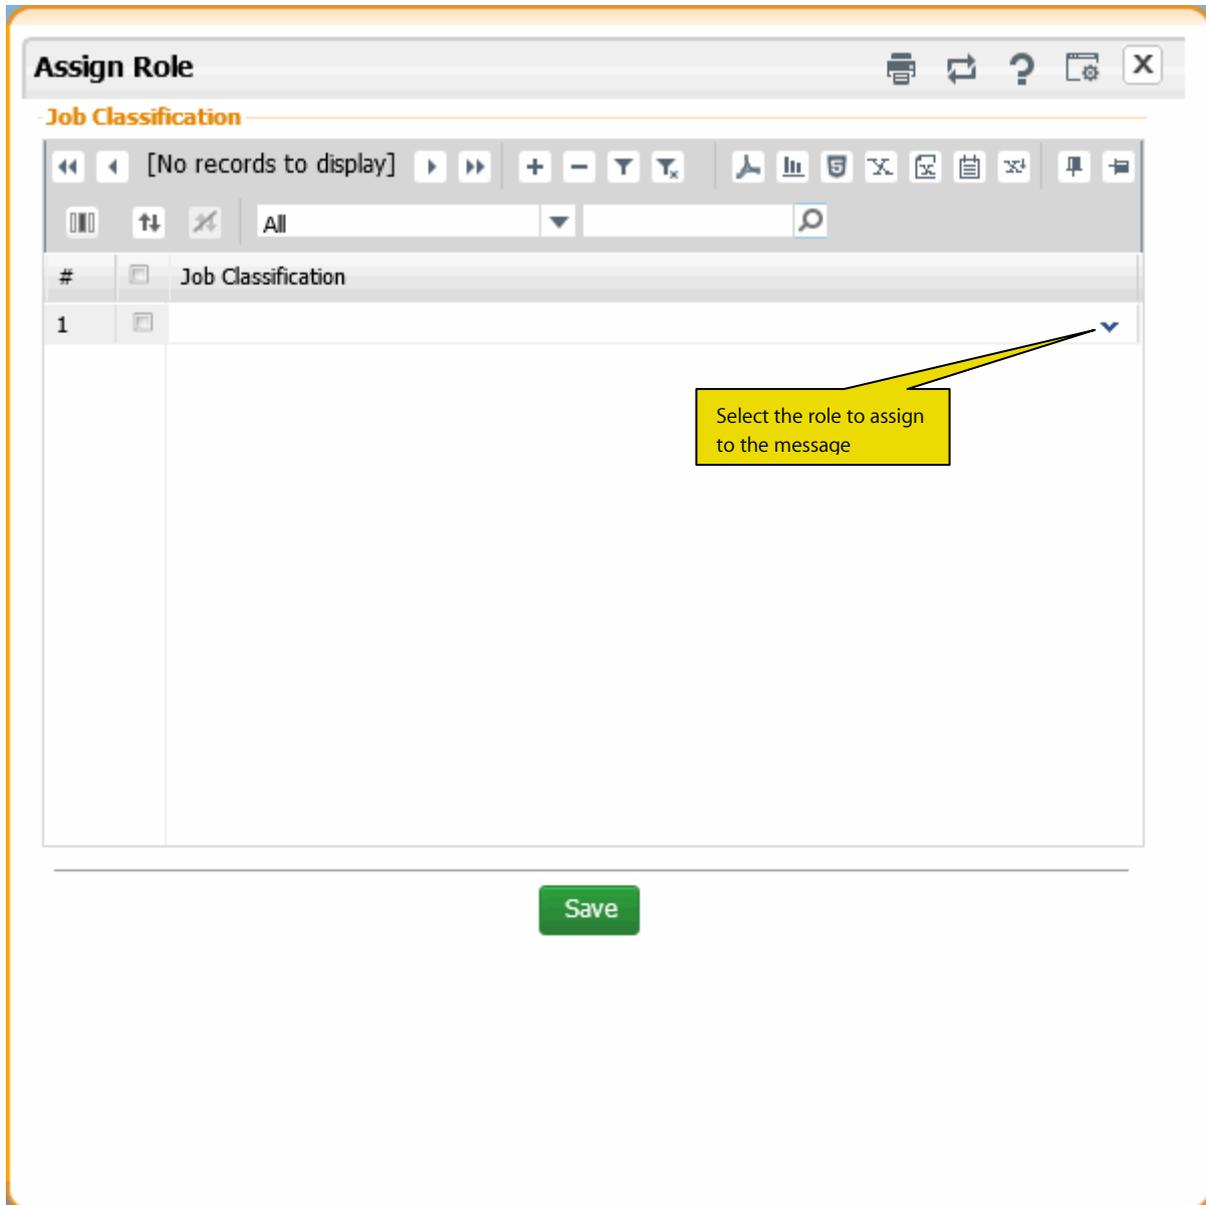

Figure 3.2: The screen for mapping roles to notification messages
1. Select the **Assign Roles** link at the bottom of the **Maintain Notification Messages for Flight Operations** screen. The **Assign Role** page appears. See *Figure 3.2*.